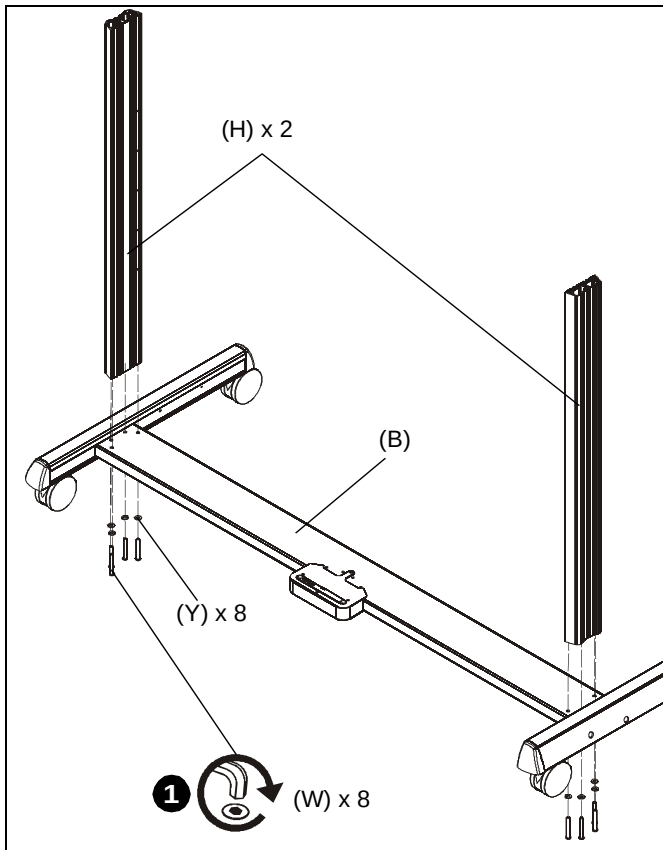

Figure 1
1. Use eight 5/16-18 x 2 1/2" button head cap screws (W) and eight 5/16" washers (Y) to secure two side columns (H) to leg and cross bar assembly (B). (See Figure 1)